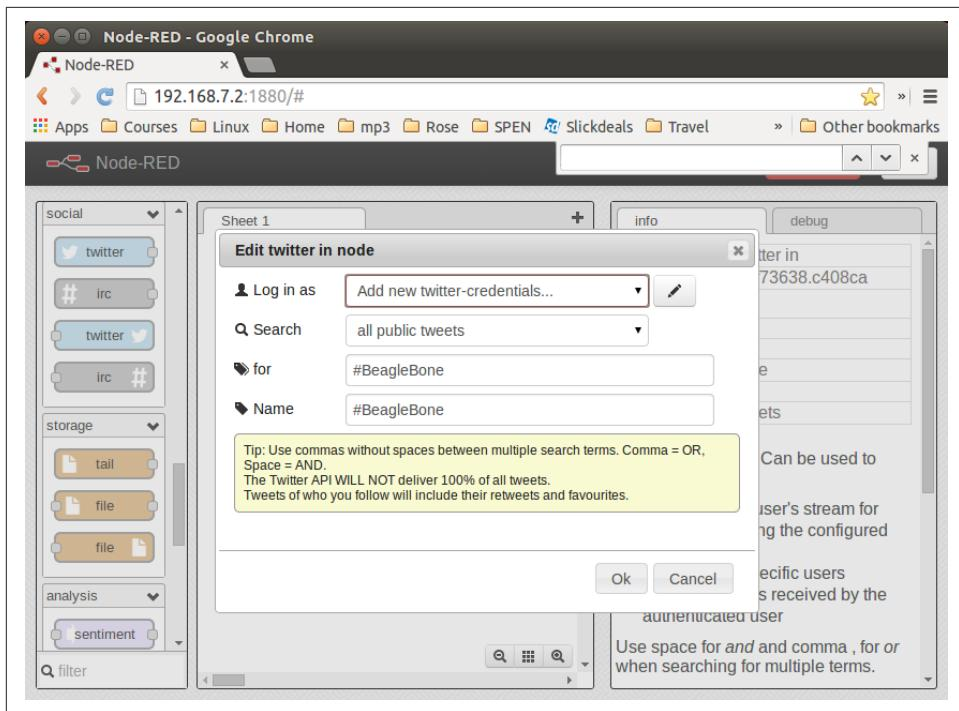

Figure 6-12. Node-RED adding the #BeagleBone hashtag
- When you're back to Node-RED, click the Add button, add your Twitter credentials, enter the hashtags to respond to (Figure 6-12), and then click the Ok button.